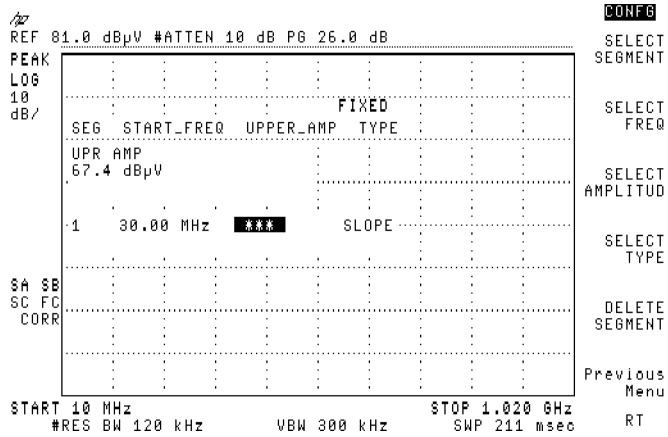

Figure 3-67. Selecting the First Frequency
13. Press **SELECT FREQ**, 30, and **[MHz]**. See Figure 3-67.